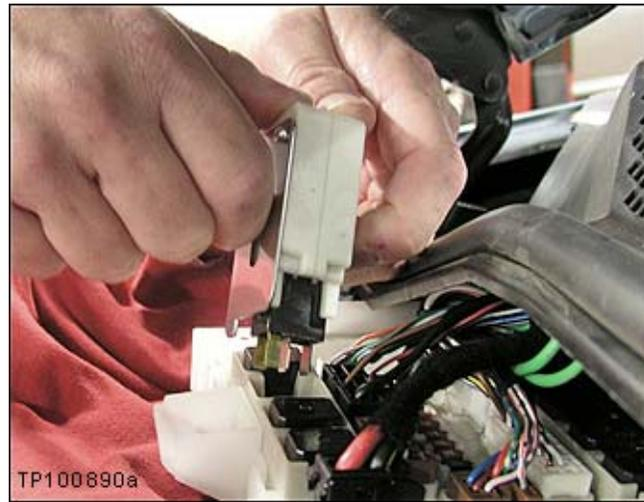

Figure 6
11. Lift special tool J-50389 away from the IPDM (see Figure 6).